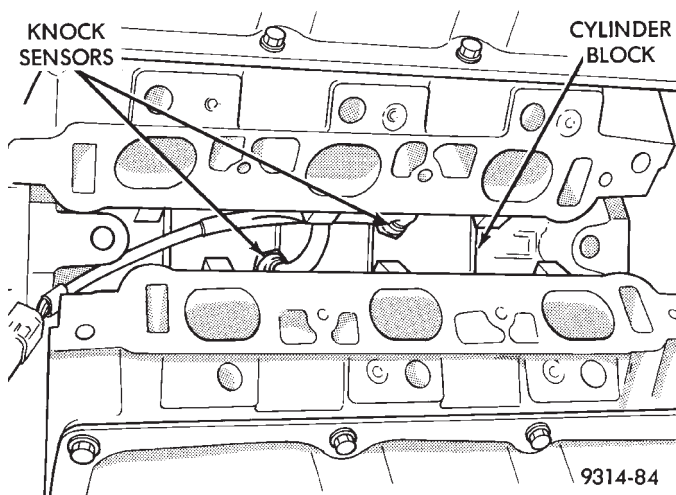

Fig. 17 Knock Sensor Location—3.5L Engine
- (1) Remove intake manifold plenum. Refer to Intake Manifold Plenum in Group 11.
- (2) Remove intake manifold. Refer to Group 11.
- (3) Disconnect electrical connector from knock sensor(s) (Fig. 17).
- (4) Use a crows foot socket to remove the knock sensors.